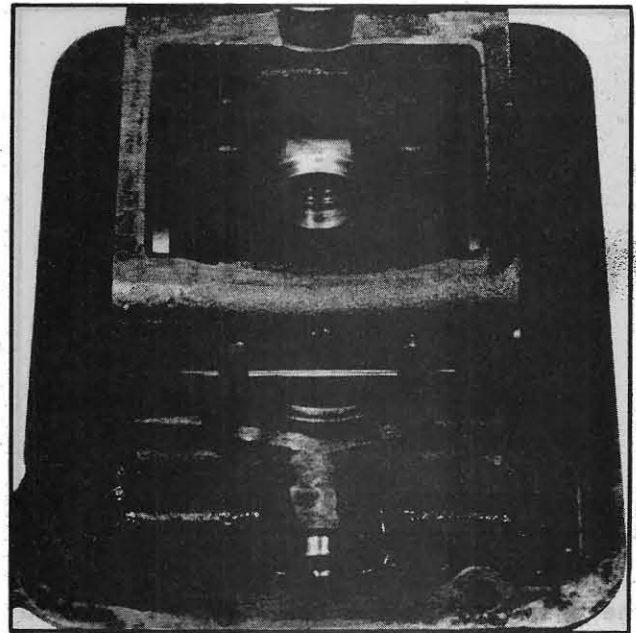

Fig. 308
3. Place the bronze bushing in the pump body so that the flanged end of the bushing is toward the inside of the pump body. Replace the fork and pin assembly and leave the set screw loose, see Fig. 308.